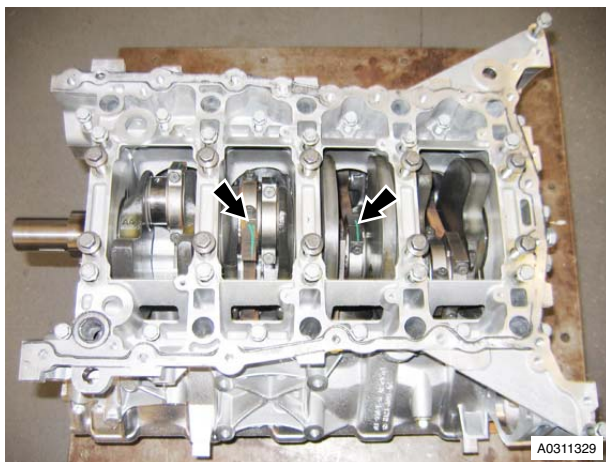

Figure 13
- 26. Mark bearing caps and connecting rods for correct installation (see Figure 13).